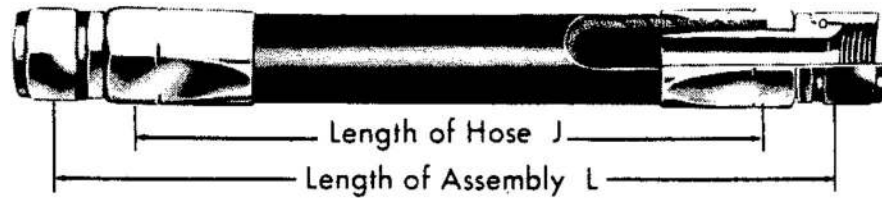

Fig.2 Length of hose in a hose assembly
3. The length of hose in a hose assembly (fig. 2) is determined by subtracting the cut off factor for each end fitting from the length of the hose assembly. The cut off factor is an important consideration when manufacturing a hose assembly if the hose assembly length tolerances are to be met. Each size of each type of fitting has a unique cut off factor and these are listed in the Chapter describing the hose type. The tolerances for length are given in Table 1.